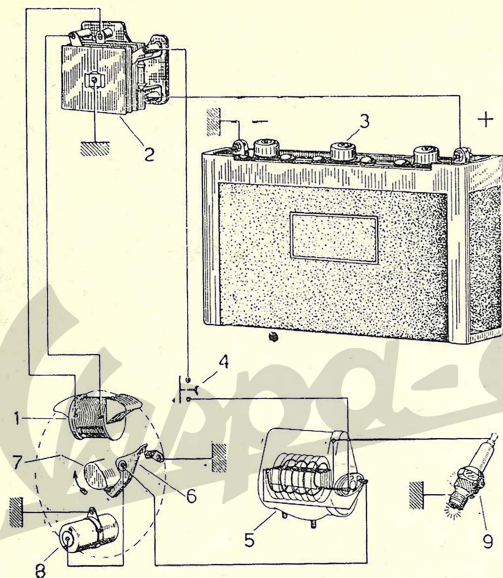

Fig. 7 - Ignition diagram
**Ignition** by battery (see Fig. 7); ignition circuit controlled by means of a key in the switch on top of head lamp housing.